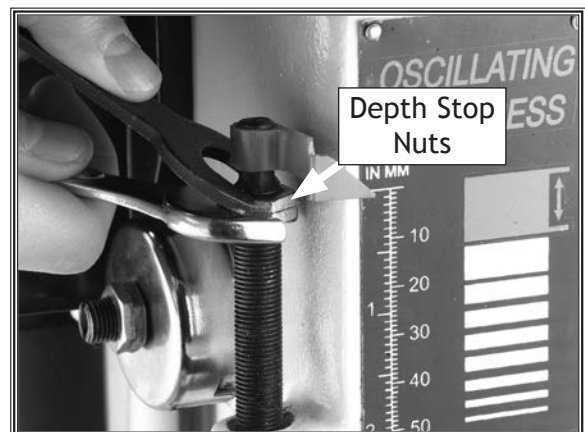

Figure 35. Backing off depth stop nuts.
6. Loosen depth stop jam and stop nuts until they are positioned at top of depth rod (see Figure 35), then tighten jam nut against stop nut to secure.